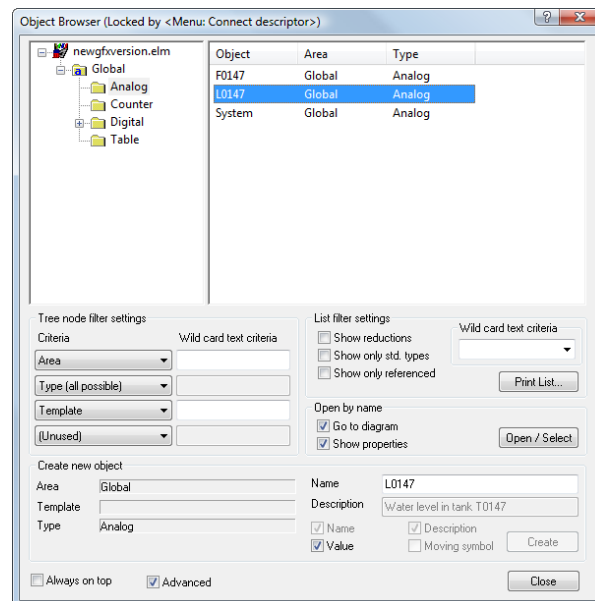

Figure 3.75 The **Object Browser** appears when you connect a standard descriptor to an IGSS object.
2. Position the line as shown in Figure 3.75, then position the name and the value.